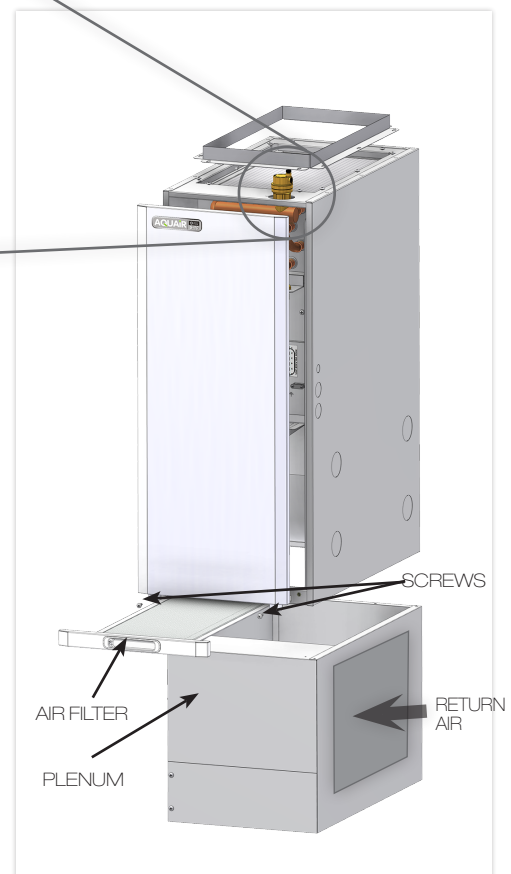

FIGURE 3. UPFLOW CONFIGURATION
9.5 UPFLOW CONFIGURATION *See Figure 3*